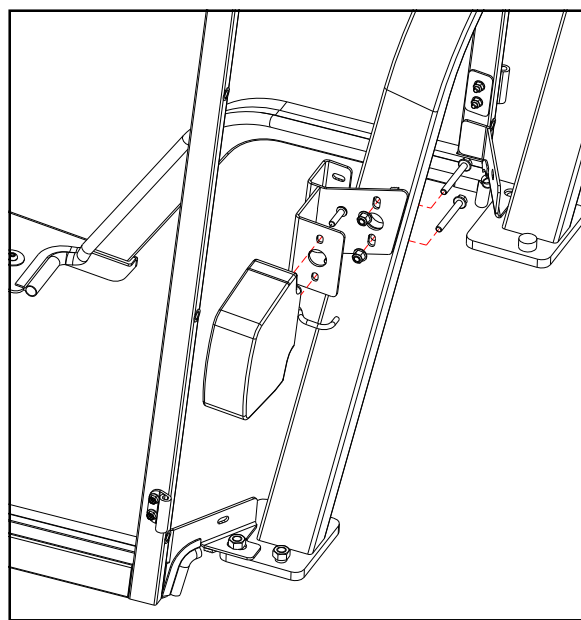

Fig. 6.2 (GC1705 & GC1715 Only)
6.2 Install the left ROPS bracket to the fixed ROPS as shown. Repeat on the right side. Tighten all hardware. See Fig. 6.2
6.4 Reinstall Vehicle lights to open position on ROPS brackets. See Fig. 6.2 or 6.3, depending on vehicle model. Feed wire down through ROPS and reconnect under vehicle fender.